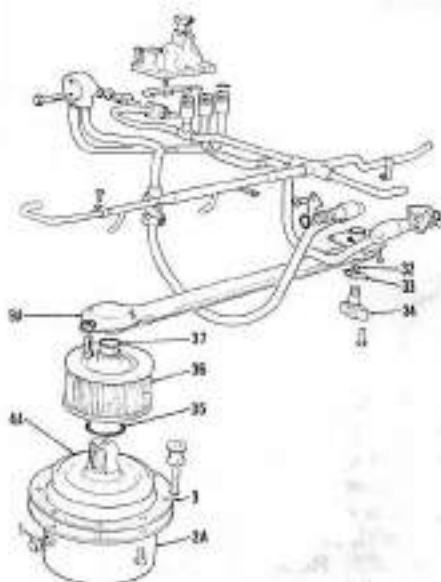

Fig. 312—On 885 and 995 models, a full flow filter element (36) is used. Warning light switch (34) is actuated when filter becomes clogged.
282. Refer to Fig. 312 for exploded views showing typical internal hydraulic line installations, suction filter units. When the filter element (36) becomes clogged, oil starvation to pump could occur; thus, a vacuum switch (34) is incorporated in the suction line (9A) to activate a warning light on instrument